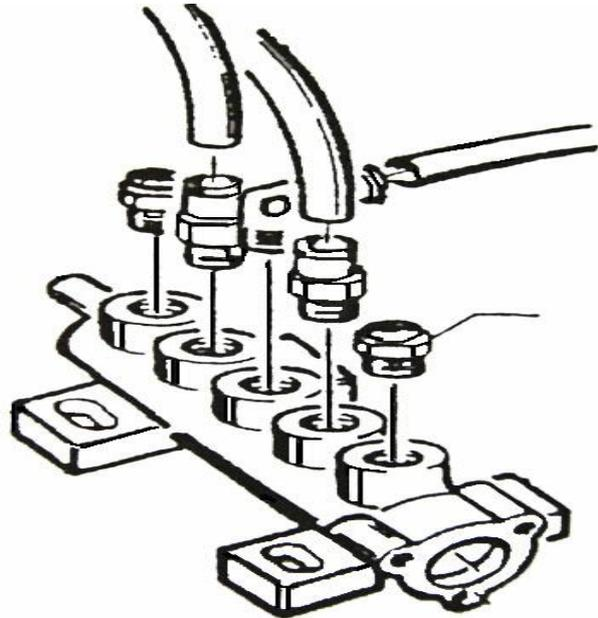

Fig.18
- f. For opening/closing clamps (see fig.18) and proceed as follows: